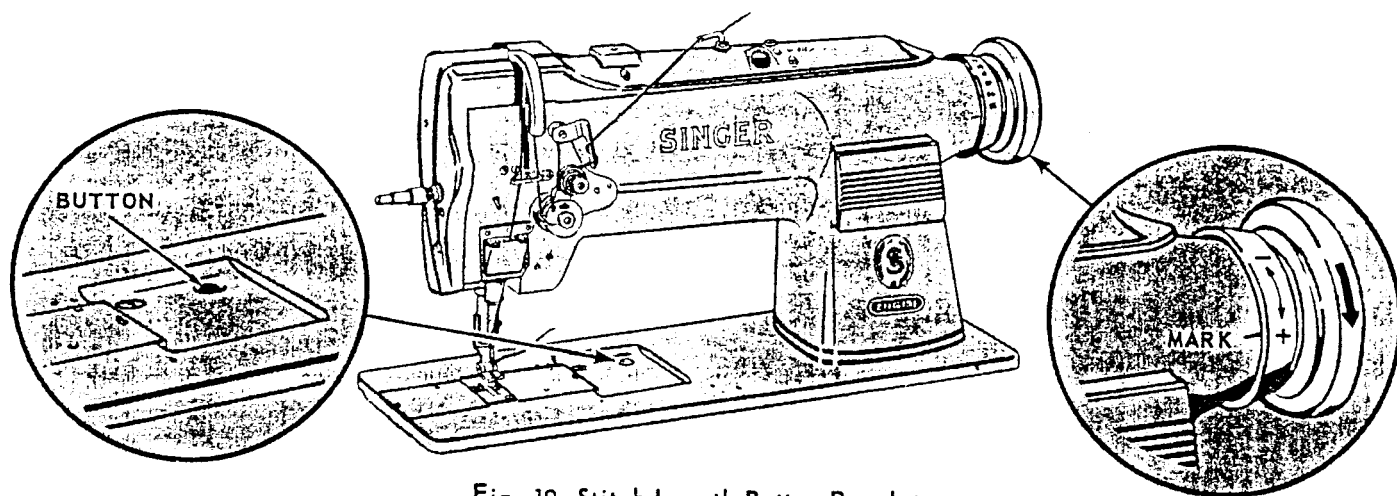

Fig. 19. Stitch Length Button Regulator
1. With machine OFF, depress button shown in Fig. 19 on bed surface. NEVER DEPRESS BUTTON WHEN MACHINE IS ON.